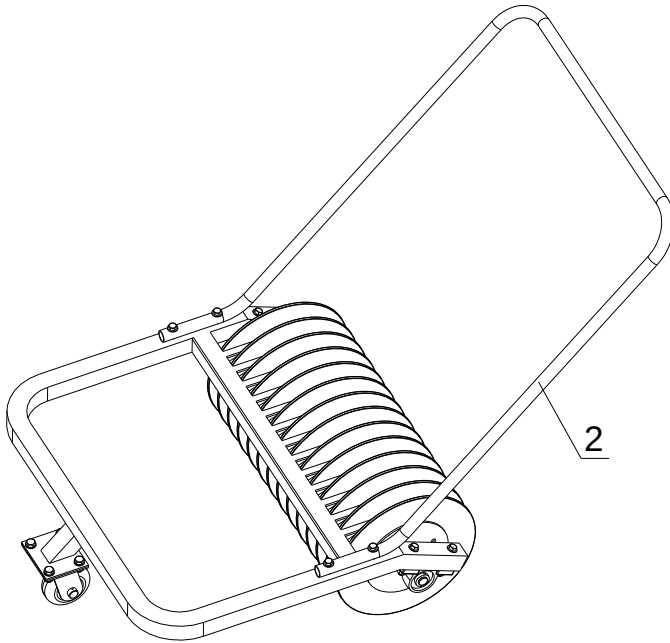

Figure 3
Step 4: Connect the Push Bar (2) and the Section Frame (1) with four pairs of M10x80 Bolt w/locknuts, washer & spring washer (6). Finish by putting the Basket (5) in. See Figure 3.